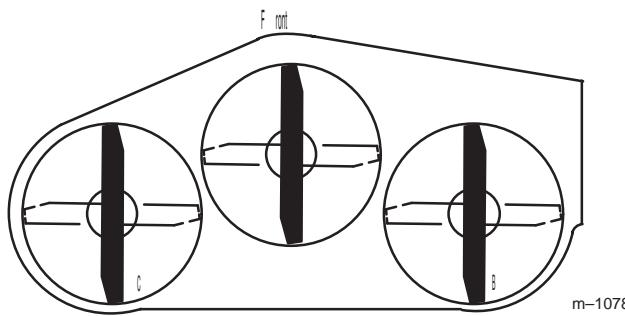
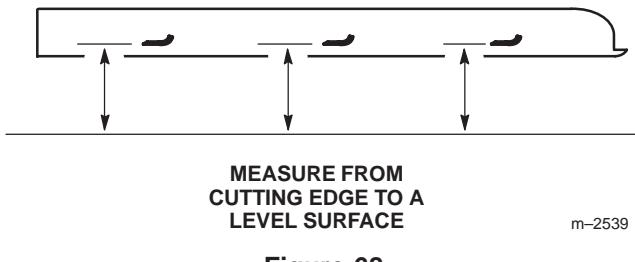

Figure 67
Figure 68
1. Position the **right** blade front-to-rear (Fig. 67).
2. Measure the right blade at the **B** location (Fig. 67), from a level surface to the cutting edge of the blade tip (Fig. 68).
4. Position the **left** blade front-to-rear (Fig. 67).
5. Measure the left blade at the **C** location (Fig. 67), from a level surface to the cutting edge of the blade tip (Fig. 68).